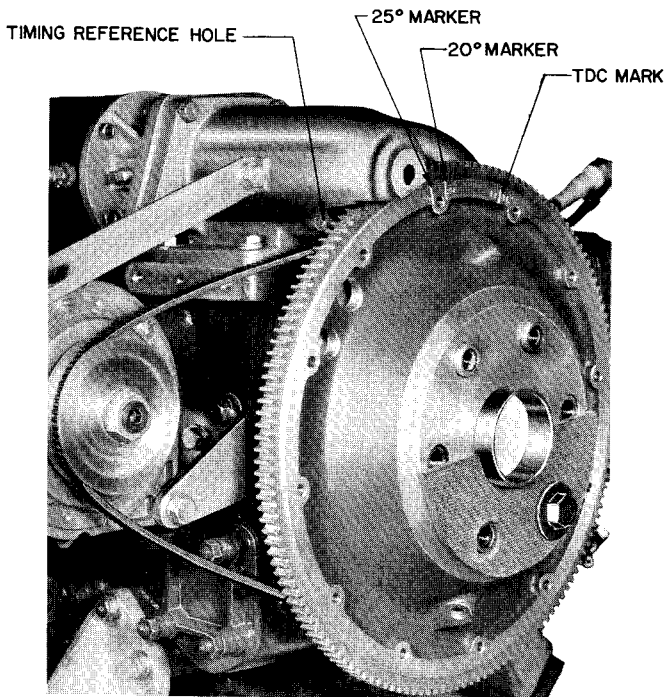

Figure 4-9. Reference Points - Timing Magnetos to Engine - TIO-541
a. (TIO-541 Series). Continue rotation the crankshaft in direction of normal rotation until the advance timing mark on the front face of the starter ring gear is in exact alignment with the small hole located at the 2 o'clock position on the front face of the starter housing. See figure 4-9. Starter ring gear may be marked at 20° and 25°. These engines use the 20° mark.